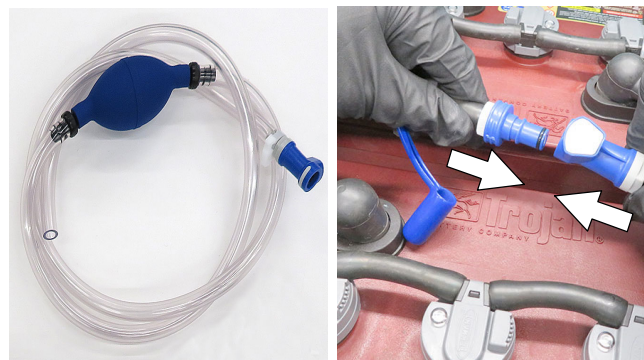

FIG. 82
4. Locate the battery fill hose coupler inside the battery compartment. Remove the dust cap and connect the hand pump hose (Figure 82).